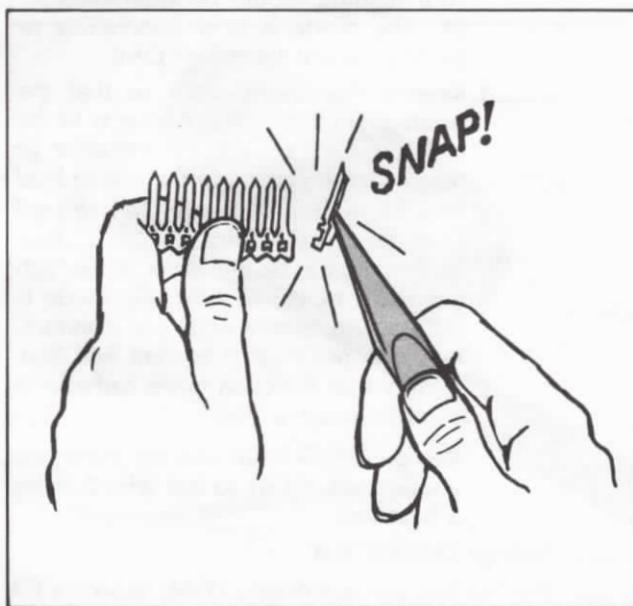

FIG. 14
- 1. Separate eight pins from the soldering pin strips as shown in Figure 14.